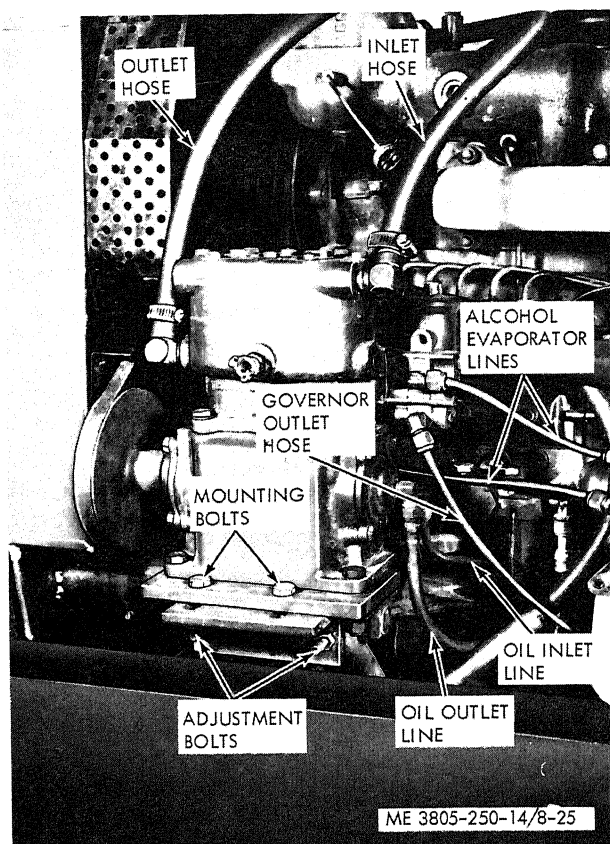

Figure 8-25. Air compressor, removal and installation.
a. Removal. Refer to figure 8-25.
(1) Block the wheels and apply the parking brake.
(2) Remove the right engine side panel.
(3) Drain the air reservoirs (para 3-19).
(4) Disconnect the inlet hose, outlet hose, governor outlet line, oil inlet line and oil outlet line